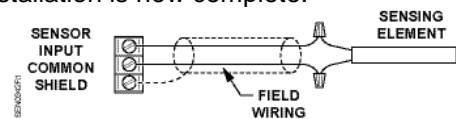

Figure 2. Wiring.
4. Connect the field wires to the appropriate controller termination point. See Figure 2.